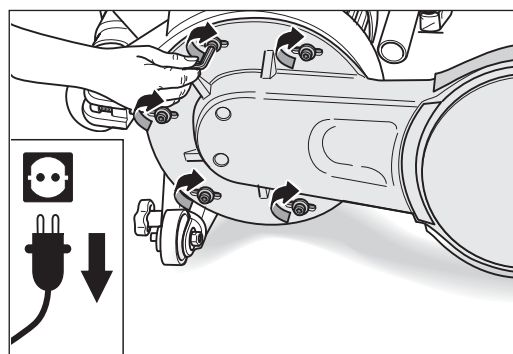

Fig. 72 Install the five screw including washers for fastening the attachment to the fan housing. Do not tighten the screws firmly!
- 15** To fasten the attachment to the fan housing, install the five hexagon socket screws including the respective washers (Fig. 72). Do not tighten the screws!